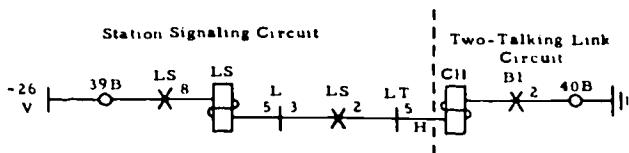

Figure 2-19. Locking circuit for relay LS, station signaling circuit.
(2) Relay BC1 operates. Operated contact M6 of relay BC completes the operating circuit for relay BC1. Operated contacts EMB6 and B7 open a circuit for relay TB1. Operated contact M2 of relay BC1 shunts the 9100-ohm resistance of relay BC, thus increasing the current for relay LS. Consequently the contacts of relay LS for the called station move to the operated position. The released BC relay, in turn, restores relay BC1. Relay LS does not restore, however, because its operated contact EMB8 has completed a locking circuit. Figure 2-19 shows this locking circuit.